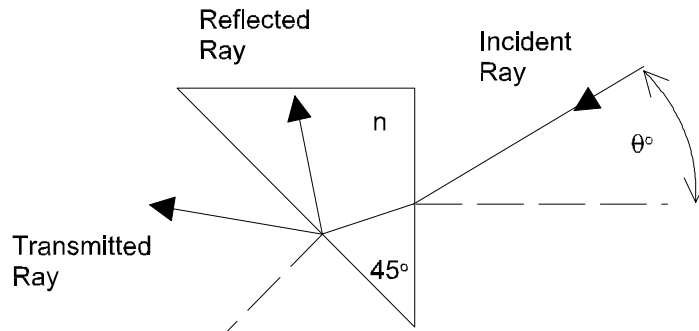

Figure 2: Geometry for measuring the index of refraction using total internal reflection in a prism.
Total internal reflection can only occur when a beam of light is traveling from an optically denser medium to a less dense medium. In other words, the beam must travel from a medium of a larger index of refraction to a medium with a smaller index of refraction. In the case of the right angle prism (see Figure 2), the geometry is arranged so that total internal reflection occurs at the **SECOND** interface corresponding to the hypotenuse of the triangular prism. In total internal reflection there is no refracted ray, so from Snell's law we may calculate the "critical" angle, $\sin(\theta_c) = n_1/n_2$ where n_2 is the index of refraction of the denser material. In our case the less dense material is air, so $n_1 = 1$.
For total internal reflection at the **SECOND** air/glass interface, (hypotenuse of the triangular prism), the transmitted ray of Figure 2 vanishes. By similar geometrical arguments as in Part II.B it can be shown:
where θ_o is the critical angle defined in Figure 2.
- 1) Leave everything in place except the piece of glass. Mount a right angle prism on the rotation stage as with the incoming laser beam oriented as illustrated in Figure 2.
- 2) Record the angle of the rotation stage for which an incoming laser beam is reflected from the first Air/Glass interface directed back on its incoming path. This will define the angle at which the incoming laser beam is perpendicular to the first interface. This corresponds to $\theta_o=0$ in Figure 2.
- 3) Adjust the angle of rotation of the stage so that the transmitted ray of Figure 2 just disappears. The NET rotation from the perpendicular (Part III.B.3) is the critical angle.